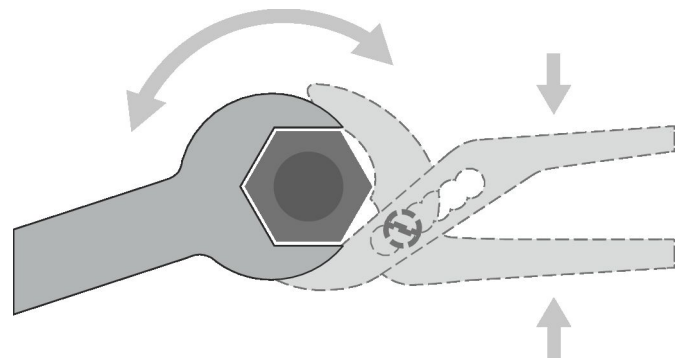

Fig. 32: Using water pump pliers to counter the tightening force
1. ▶ Hold the threaded pipe tail of the heat exchanger with water pump pliers ( Fig. 32 /2).
2. ▶ Hold the threaded pipe tail with the pliers while you use a spanner (hexagonal profile, Fig. 32 /1) to connect the heat exchanger to the pipework (pipework by others).